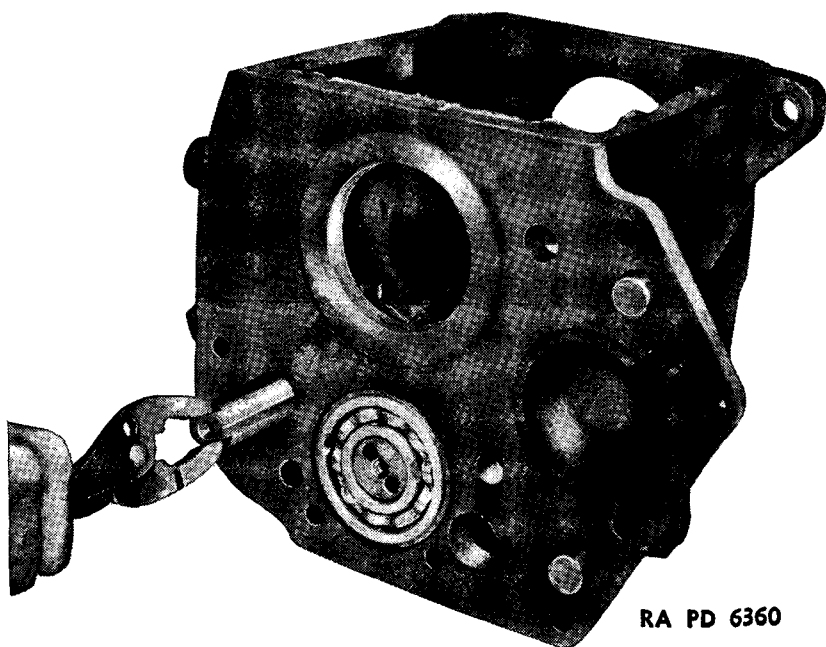

FIGURE 103.—Transmission reverse idler gear shaft removal.
(13) Remove reverse idler gear—brass drift, hammer, pliers. Drive on inner end of reverse idler gear shaft (B184284) as far as possible, and then remove by pulling on front outer end with pliers (fig. 103). Remove reverse idler gear (B184260) and thrust washers (A214823) from case (fig. 104). Reverse idler gear bushings (A214778) can be removed from gear by driving with brass drift or by pressing them out.
(14) Remove countershaft rear bearing retainer washer—cutting pliers,  $\frac{5}{16}$ -inch socket wrench. Cut locking wire and remove two